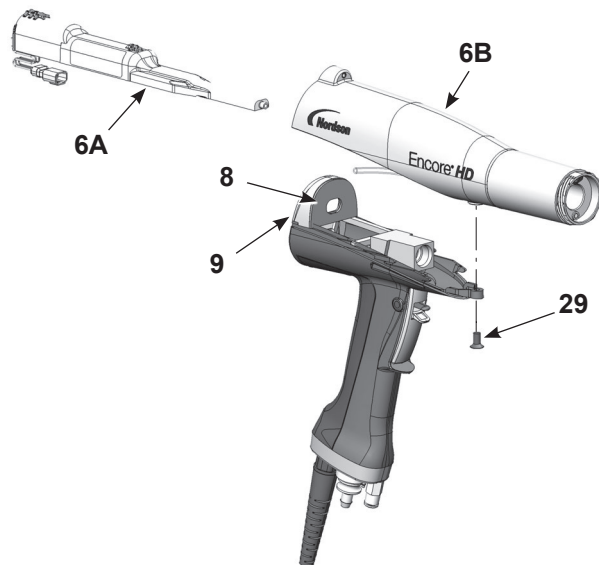

Figure 13 Removing the Power Supply from the Gun Body
1. See Figure 13. Slide the power supply (6A) out of the gun body (6B).
2. Check the gasket (8) on the back of the bulkhead (9). Replace it if it is damaged. The gasket is stuck to the bulkhead with pressure-sensitive adhesive.